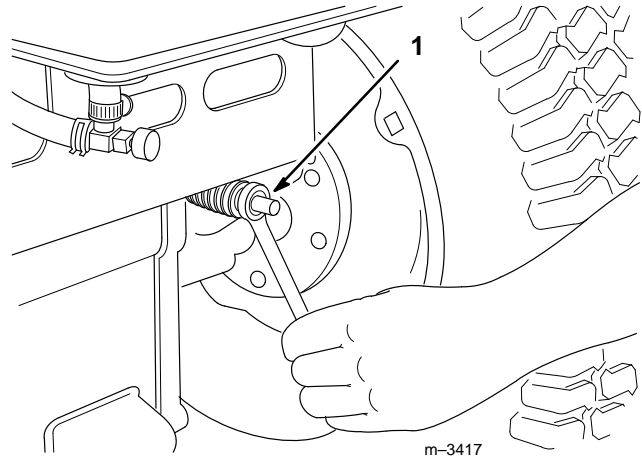

Figure 34
The brake adjustment is behind the left side cover (Fig. 34). If the parking brake does not hold securely, an adjustment is required.
4. Turn the brake adjustment nut (Fig. 34) until there is 2" (51 mm) of free travel.